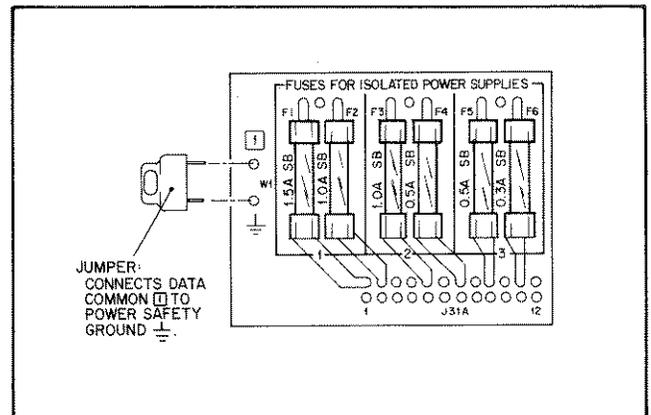

Figure 2-12. Fuse Board for Isolated Power Supplies
fuse board. As shown in Figure 2-12, each isolated supply has two fuses. The fuse board is located behind the front grill and to the right of the fan assembly. To gain access to the fuses, proceed as follows:
2-51 Jumper W1 on the fuse board (Figure 2-12) connects the data common ground (1) to the power (safety) ground. The jumpers are installed on all 6942A and 6943A units as they are shipped from the factory. They should be left installed for best noise immunity. However, if the 6943A Extender Units are spread over a long distance, the jumpers may be removed from the 6943's to prevent ground loops.